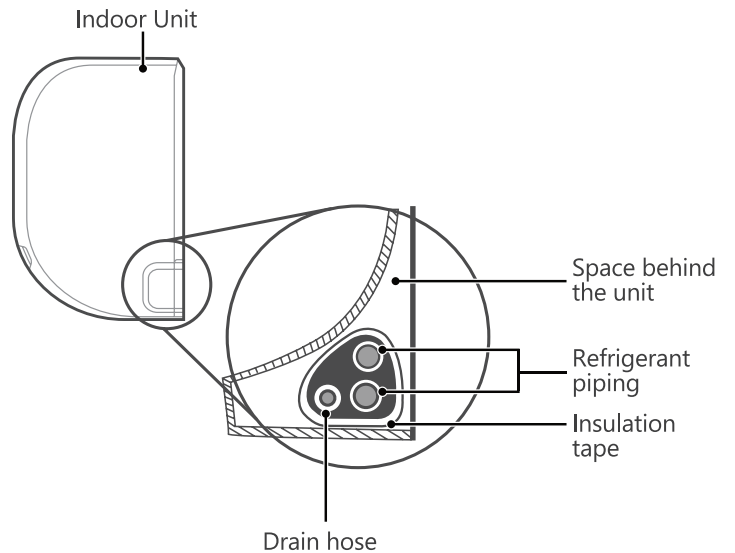

Fig. 5-1: Bundle Arrangement
1. Bundle the drain hose, and refrigerant pipes as shown in Fig. 5-1.